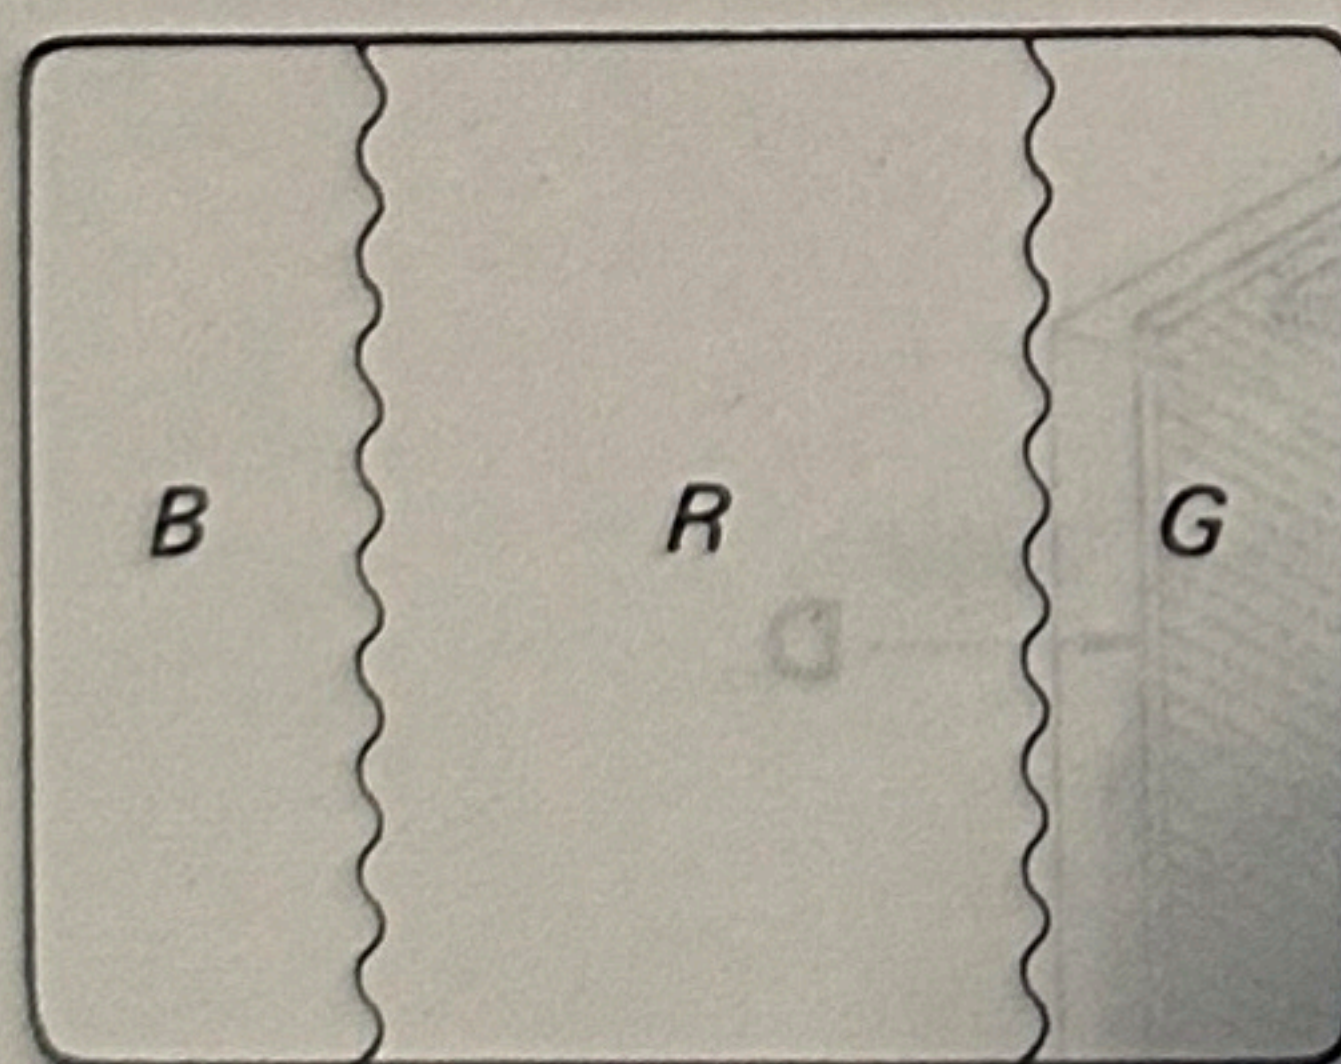

Fig. 2.
6. Adjust the purity control so that the vertical red band is located in the center of the screen as shown in Fig. 2.